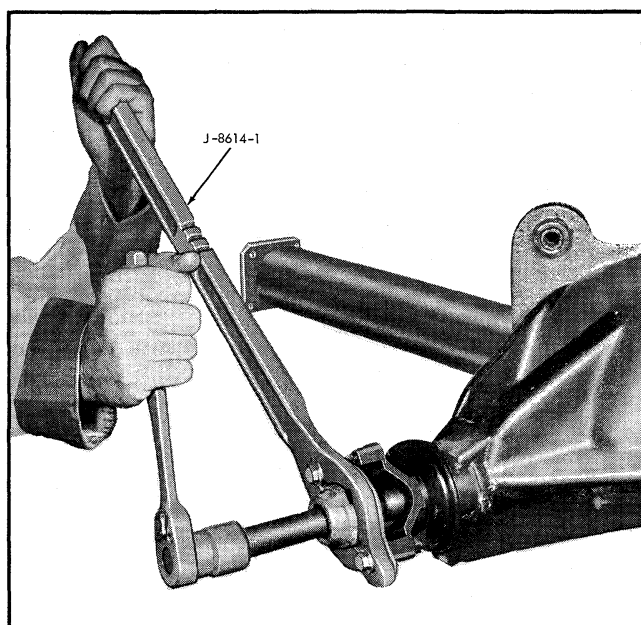

Fig. 4-31 Removing Companion Flange
3. Pull companion flange from pinion using puller J-8614-02 in holder J-8614-01. To install puller, back out puller screw, insert puller through holder, and rotate 1/8 turn. See Fig. 4-31.